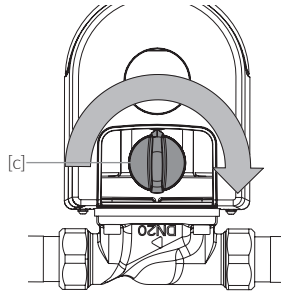

Fig. 8.2
- / Fig. 8.2: Turn the handle [c] 90° in the direction of the arrow until it stops.